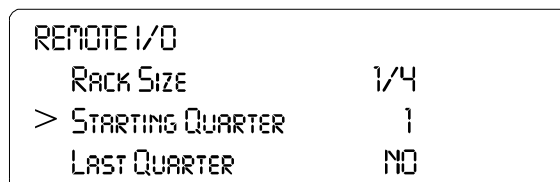

FIG. 12: REMOTE I/O SELECTING STARTING QUARTER
Step 13. Press the down arrow button until the cursor is in front of Starting Quarter. (See Fig. 12)